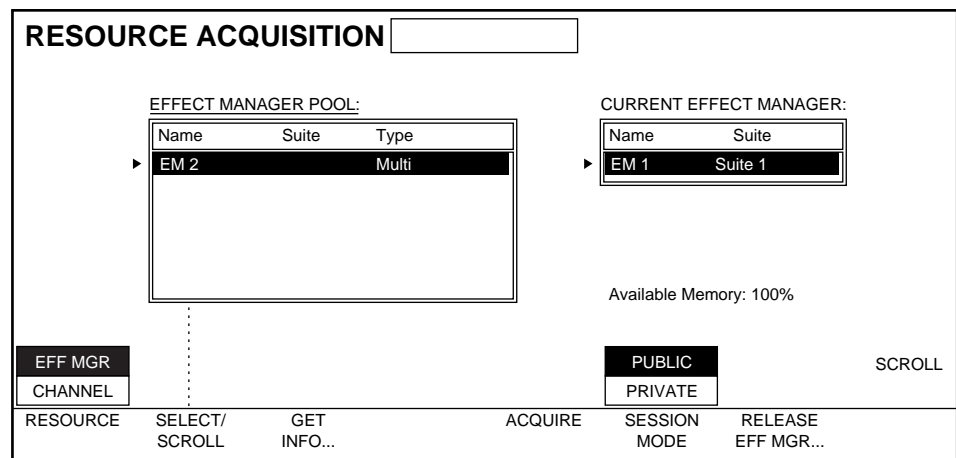

Figure 3-7. Resource Acquisition Menu, Effect Manager Acquired
- Press RESOURCE to select EFF MGR. The EFFECT MANAGER POOL box lists all available Effect Managers and the CURRENT EFFECT MANAGER box shows the currently selected Effect Manager. Press SELECT/SCROLL to select the desired Effect Manager and then press ACQUIRE to select that Effect Manager it and place its name in the CURRENT EFFECT MANAGER box (Figure 3-7).